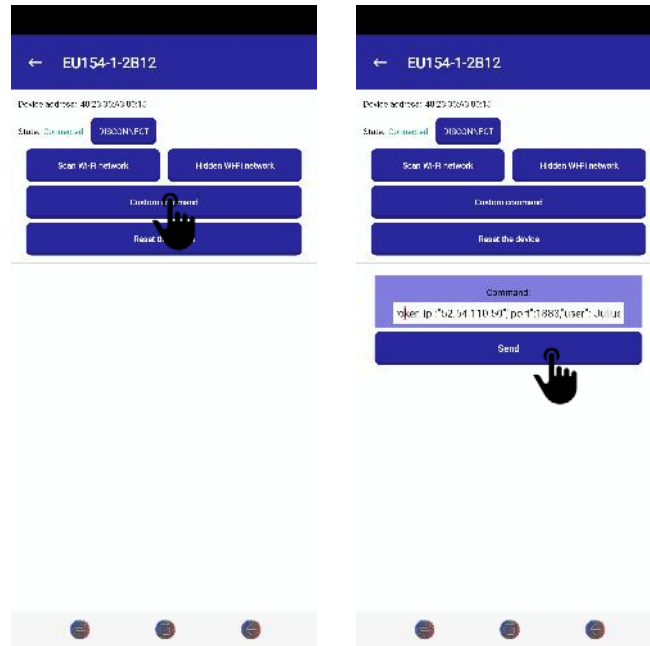

Figure 7. MQTT broker and client parameters
11. When the device is connected to the WiFi you need to setup an MQTT broker address and client parameters. This is done by copying and pasting custom command in json format. Detailed print screens are in Figure 7.